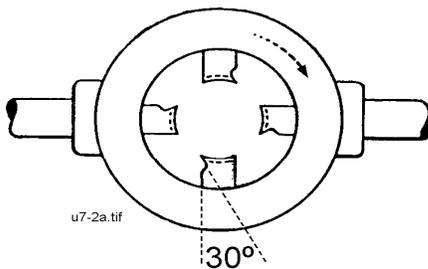

Figure 1.
- 3.1 *Dies.* Use sharp dies reserved for threading aluminum conduit only. A tangent die with a 30o rake is recommended. This special rake may be specified when ordering dies, at no extra cost. See Figure 1.